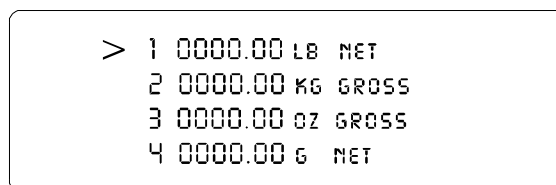

FIG. 3-6 SUMMARY DISPLAY/4 CHANNELS
- Step 3. To select a channel, press the up or down buttons to move the cursor in front of the channel you want. (See Fig. 3-6)